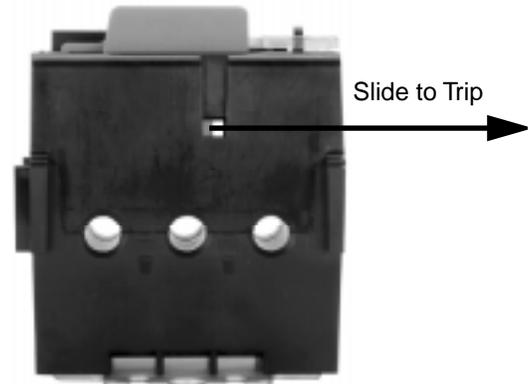

Figure 3 Manually Tripping the Overload Relay
2. Manually trip the solid-state overload relay (see Figure 3).